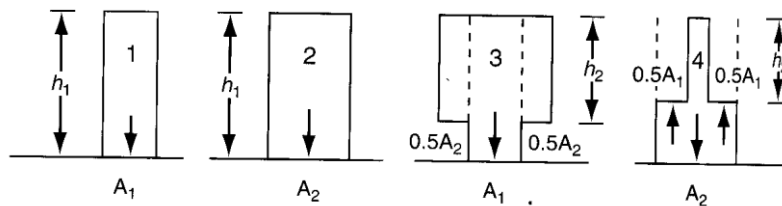

Figure SAT5.1Q2
1. Figure SAT5.1Q2 shows four closed containers completely filled with water. Order the containers from the one exerting the highest pressure to the lowest on their respective base.